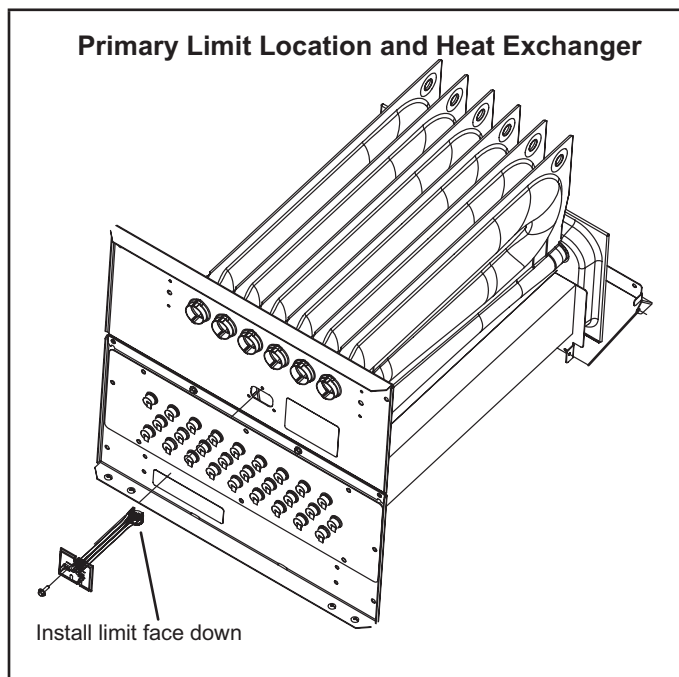

FIGURE 8
2. Heat Exchanger (FIGURE 8)
3. Primary Limit Control (FIGURE 8)